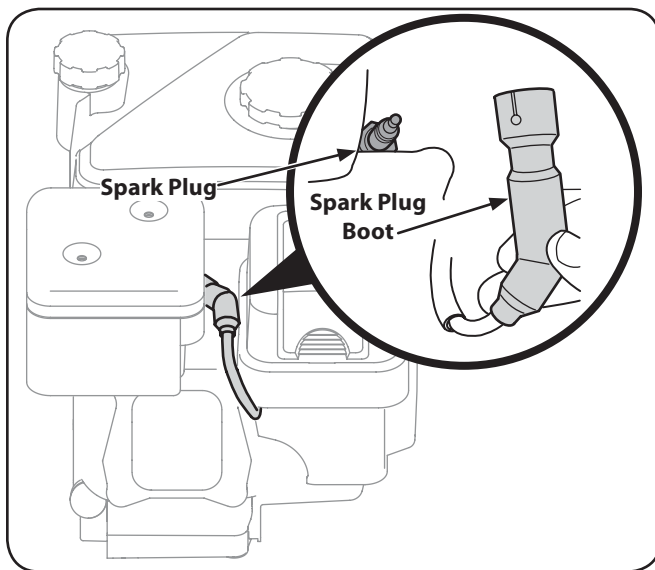

Figure 6-3
1. Remove the spark plug boot and use a spark plug wrench to remove the plug. See Fig. 6-3.